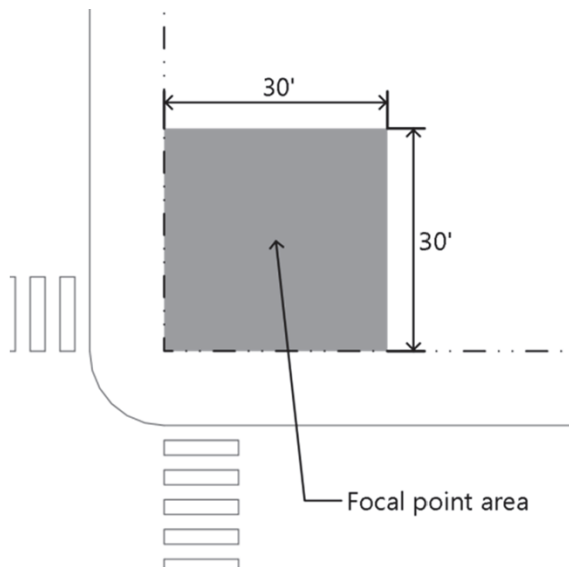

Figure 040-24: Focal Points
- i. To visually and physically anchor street intersections, buildings located on corner lots shall provide a focal point within a box formed from lines extending thirty (30) feet away from intersecting property lines. The focal point shall include one (1) or more of the following elements:
- b. Decorative architectural wall that is between thirty (30) and thirty-six (36) inches tall and complies with any other sight distance triangle restrictions in Subsection 070.020.190(c)(5), Sight Distance Triangle Requirement.
- iv. The Alternative Equivalent Compliance process in Subsection 070.040.090(c)(2) may be used to consider alternatives from this requirement where strict compliance would result in unsafe or inadequate access, where the lot has less than fifty (50) linear feet of frontage, and/or where the site has unique topographical characteristics that make it infeasible to locate at least one (1) of the listed focal point elements. (Figure 040-24)
- a. In the mixed-use and other nonresidential districts, except in the Downtown Core, no more than thirty (30) percent of the total number of off-street parking spaces provided shall be located between the principal building and the front property line.
- b. No parking space shall be located closer than five (5) feet from a window or door of a habitable structure.
- d. Surface parking shall not be located in a focal point area indicated in Figure 040-24.